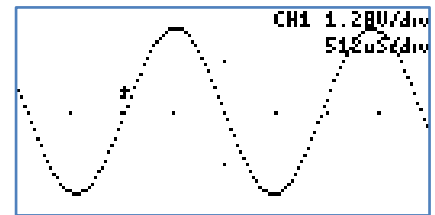

Figure 36: Pixel Display
- **Pixel:** A single pixel represents a sample. The pixel display is useful at slow sampling rates or when used in combination with the persistent mode. Figure 36 shows the pixel display.